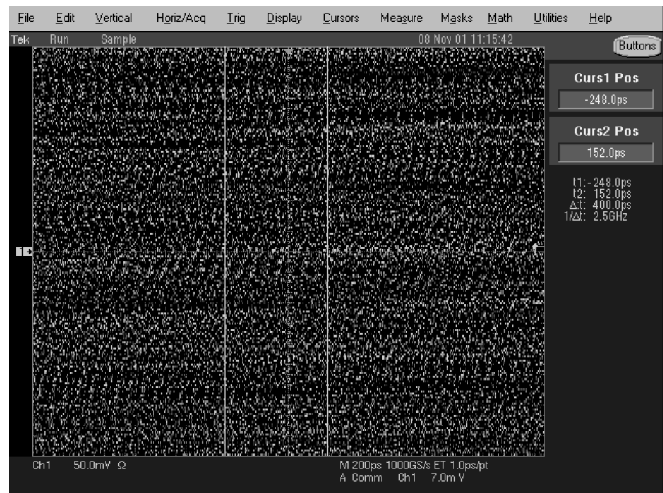

Figure 4-32: Clock recovery
NOTE. *The instrument will attempt to acquire lock once. If the input data is disrupted, removed, or heavily distorted, the instrument may not acquire lock or may lose lock. If the recovered clock is not locked to the incoming data, the waveform display will not be stable (see Figure 4-32). Once the input data is available, press the PUSH SET TO 50% knob to force the instrument to acquire lock again.*
- e. Verify that lock is acquired as in Figure 4-32, on page 4-72.